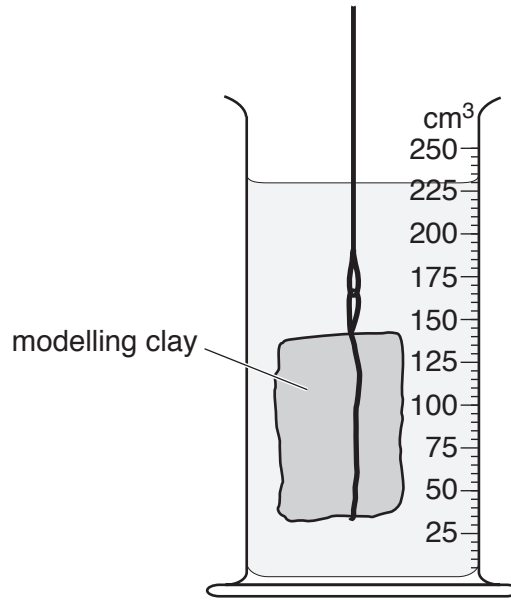

Fig. 1.5
(f) The student lowers the modelling clay into the water, as shown in Fig. 1.5.
- (i) Record the new reading  $V_3$  of the measuring cylinder in Fig. 1.5, with the block of modelling clay in the water.